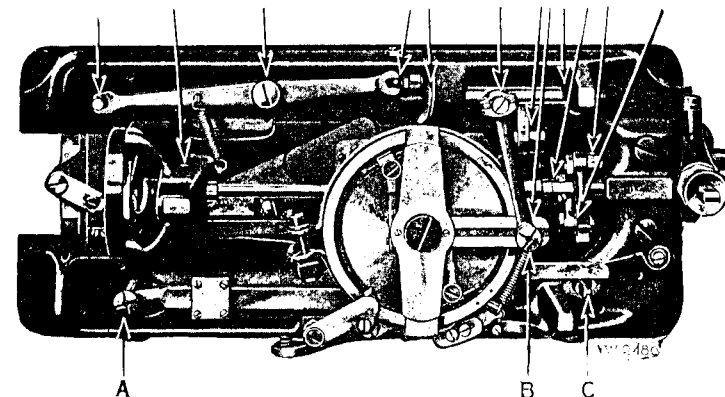

Fig. 18. Oiling Points in the Base of the Machine
The distance between the stitches is regulated by the thumb nut (B, Fig. 18) which holds the end of the driving lever pitman in the slotted lever underneath the bed of the machine. To increase the distance between the stitches, loosen the thumb nut (B) and move it to the left. To decrease the distance between the stitches, move the thumb nut to the right. When the desired distance between the stitches has been obtained, tighten the thumb nut.
When the knife descends to cut the buttonhole it must enter exactly in the centre of the slit in the needle plate. In case the knife does not enter in the centre of the slit, loosen the thumb screw (A, Fig. 18) under the bed of the machine and move the needle plate until the knife is in the centre of the slit, then tighten the thumb screw.
To reach the parts underneath the bed plate, the machine should be turned over on its hinges, and to do this the belt must be thrown off the pulley of the machine. The points to be oiled are shown in Fig. 18. Oil the shuttle bearing in the shuttle race each time a bobbin is replaced.